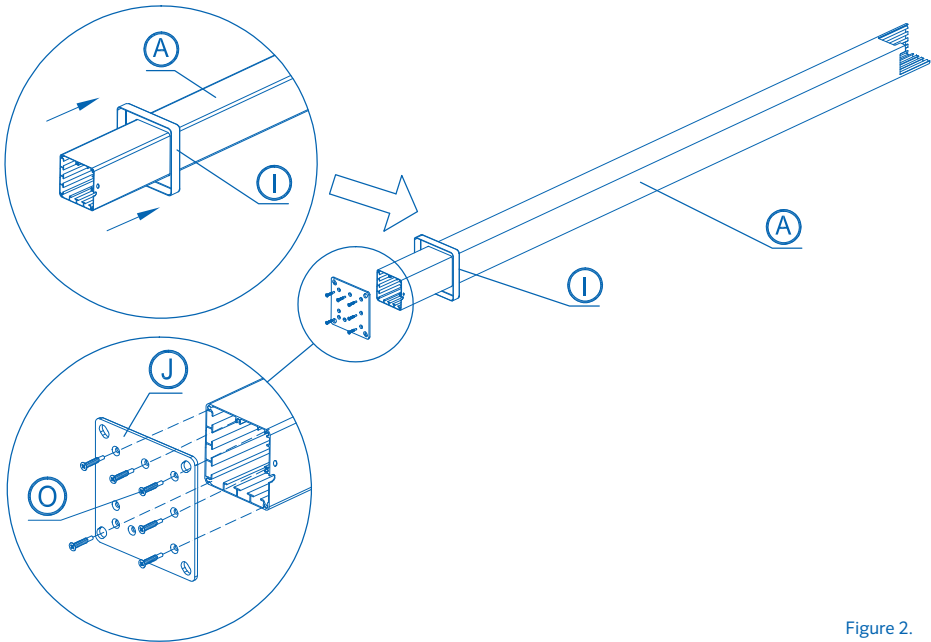

Figure 2.
Slide a collar (I) over the bottom of one of the posts (A) as shown in figure 2, with the rounded part of the collar facing towards the top of the leg. Position base plate (J) over the bottom of the leg section and affix to the leg using 6 screws (O). Repeat this process for the other three corner posts.